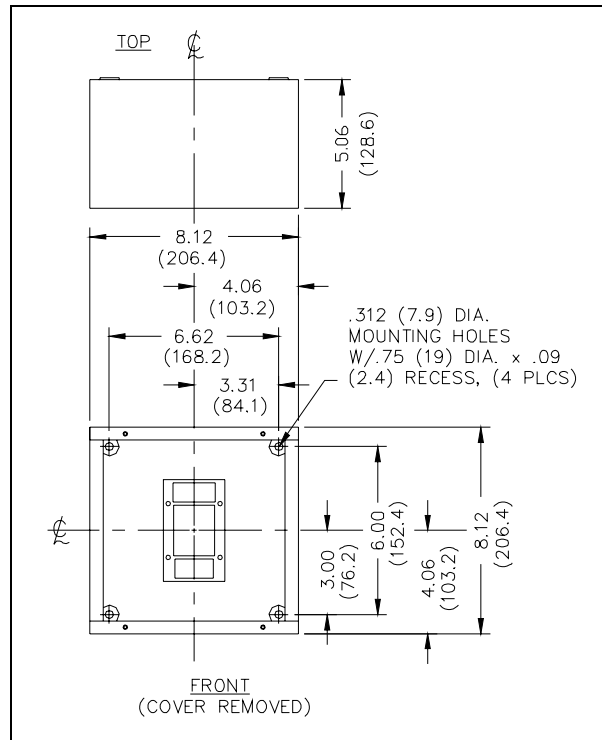

Figure 1. Mounting Details
3. Figure 1 shows the mounting details for the Model 10439-102 Electrical Safety Barrier. Mount the barrier as shown in the figure.